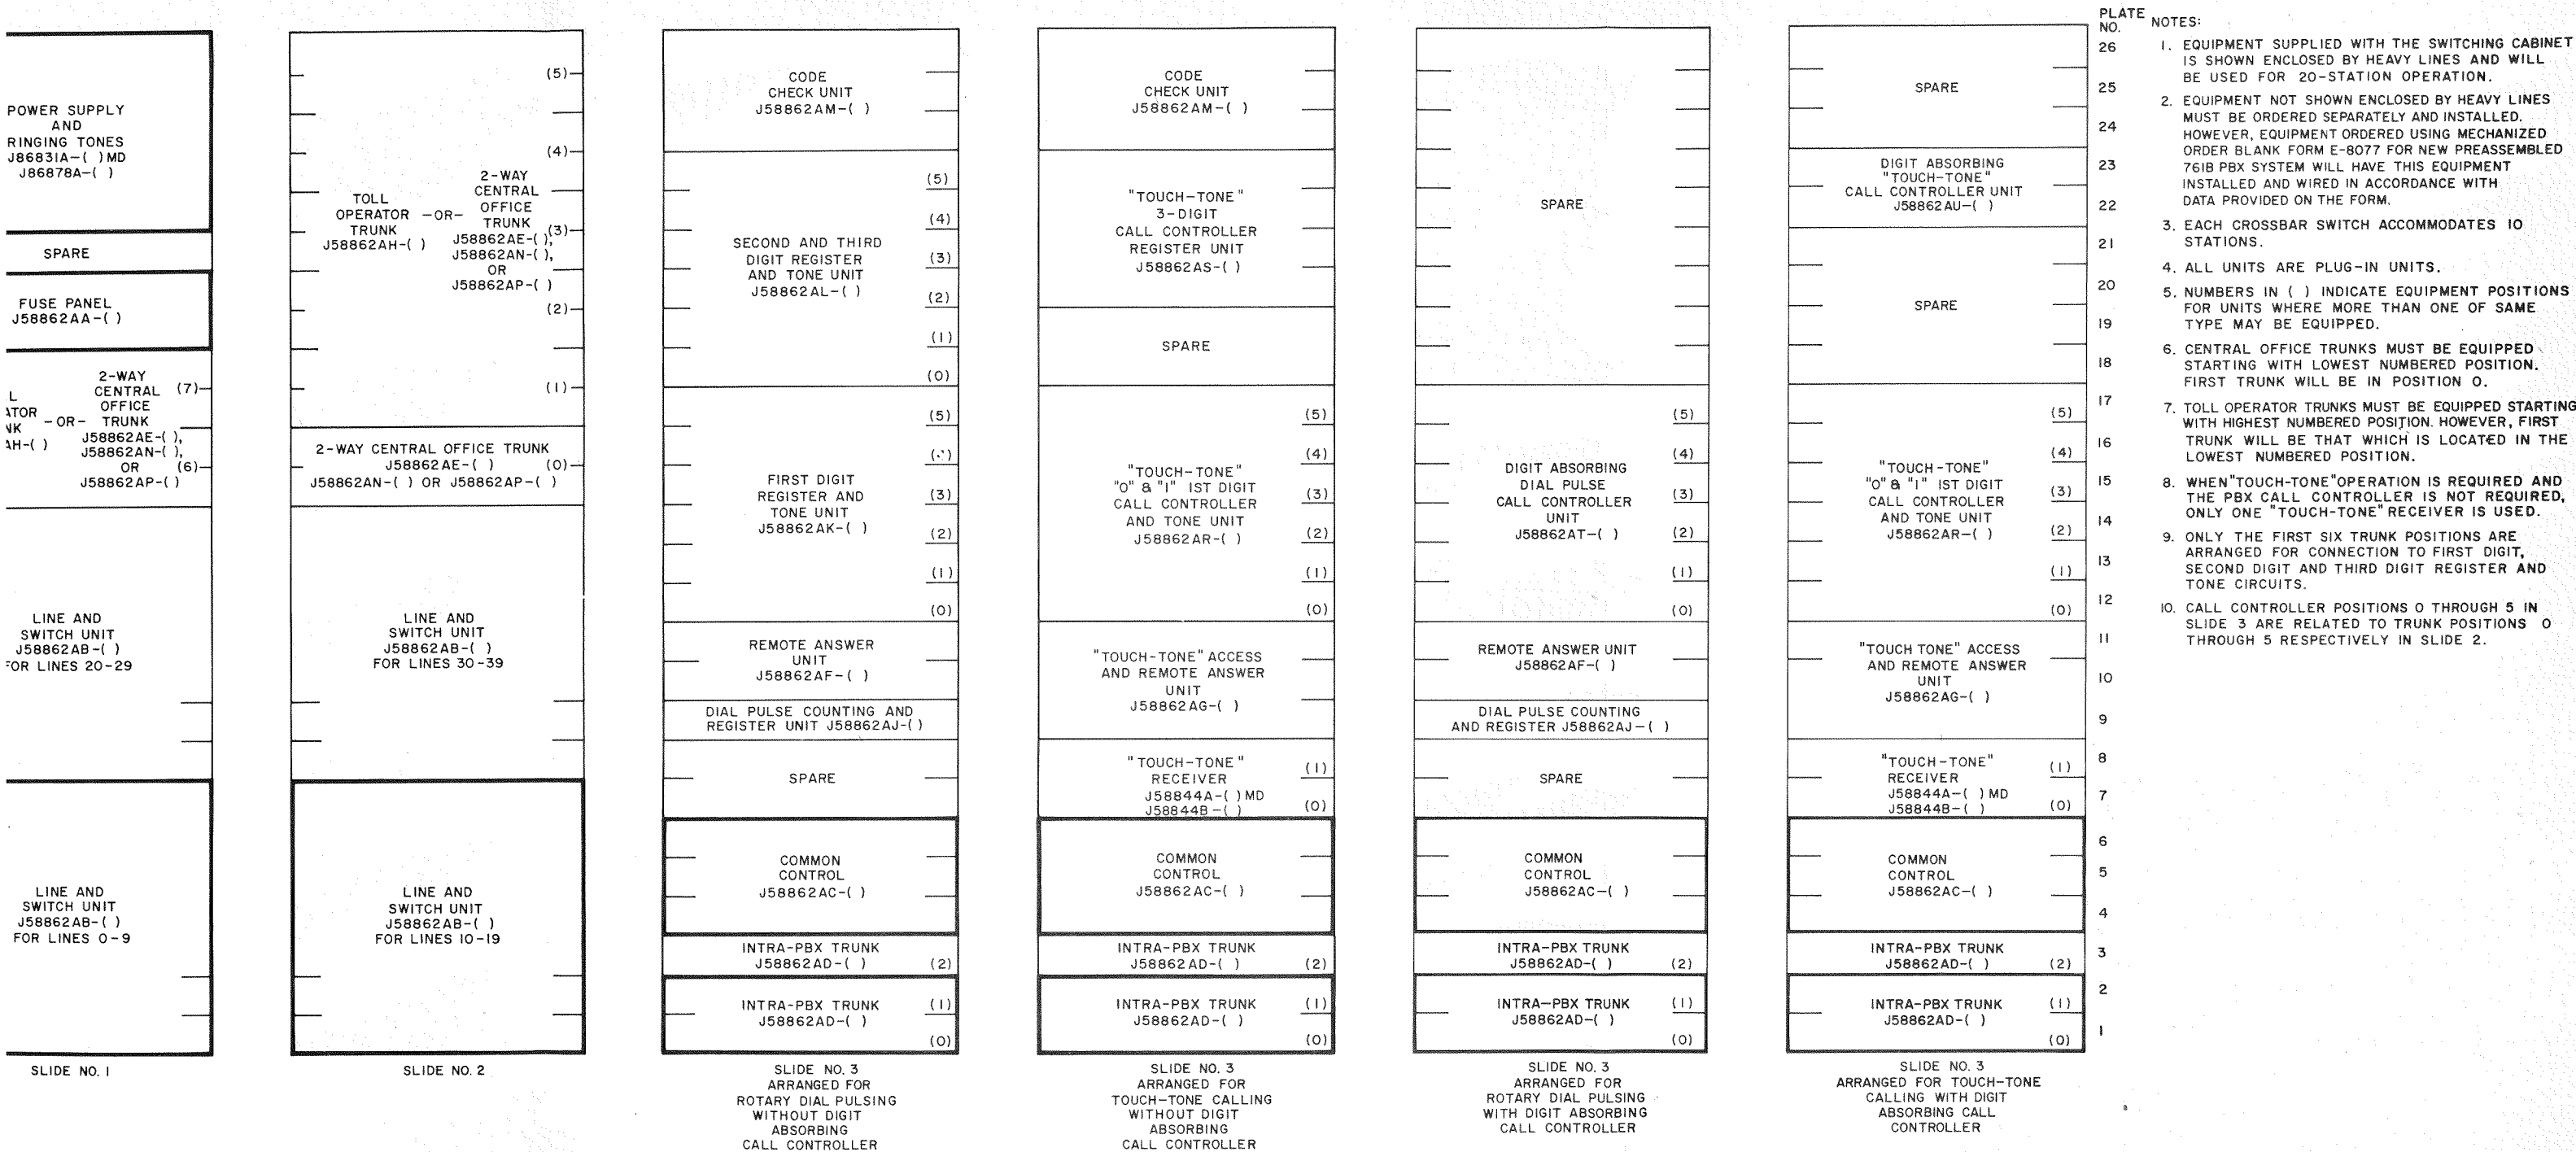

Fig. 3—Switching Cabinet Equipment Arrangement
**3.01** The basic 761B PBX switching equipment for both rotary and TOUCH-TONE dial operation is listed by J numbers in Table A. All of the equipment is installed in the switching cabinet (Fig. 2) on three slides. The possible slide arrangements are shown in Fig. 3.
7.05 When equipment other than that furnished with the cabinet is required, mount the additional equipment on slides 1, 2, or 3 in positions shown in Fig. 3. Plug the equipment plugs into the slide connectors (Table C), as required.